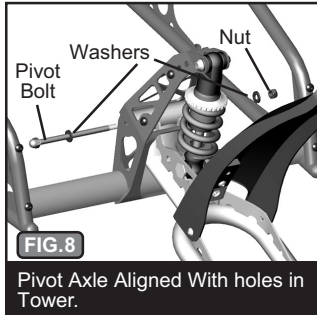

FIG. 8
**E)** The pivot axle will need to be aligned with the pivot bolt holes in the shock tower. These are located above and forward of the windows in the sides of the tower. The fit between the pivot axle and tower is a tight tolerance fit so it will take some effort to move the pivot into position. This can be done by pushing on the back of the swingarm and rotating the pivot axle into alignment with the pivot bolt holes as shown in Fig. 8. Once aligned, install pivot bolt and washers, Fig. 8, and tighten to 60 inch-pounds (70 cm-kgs) using two 10mm wrenches.